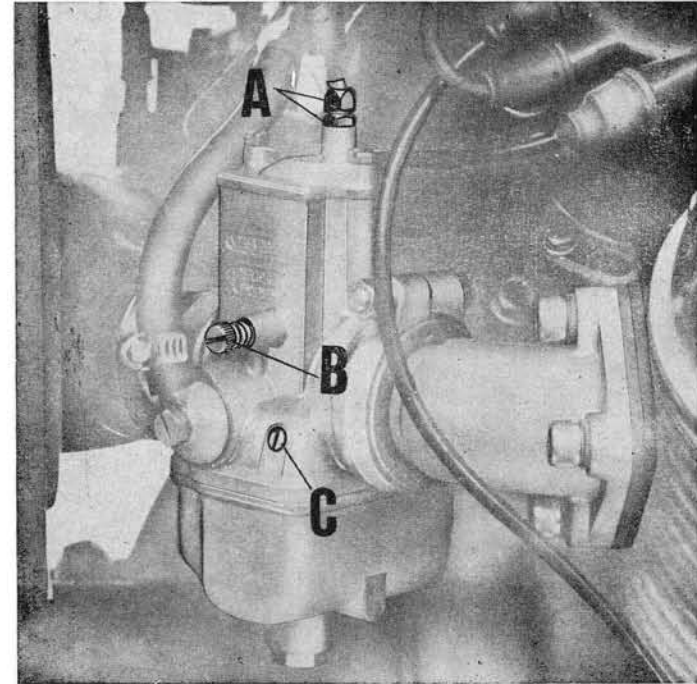

Fig. 13
- 2) Check synchronization of both gas valves with the filter box and the inlet sleeve disconnected. Turn the throttle grip keeping at the same time your fingers on the carburetor slides to feel if both valves open by the same amount and simultaneously. Should one valve open before the other, this can be corrected by setting screw A fig. 13 in the position where by turning the throttle both valves open simultaneously.
- 3) Adjust the idling speed by acting on screw C in fig. 13. Screwing this in reduces the fuel flow and viceversa increases it. To adjust, tighten and then turn screw out $1\frac{1}{2}$ turns for the L/H carburetor and $1\frac{3}{4}$ to 2 turns for the R/H carburetor.
With the engine running at about 1000-1200 r.p.m., disconnect one of the leads and turn screw C (fig. 13) of the opposite carburetor in or out to the position which will give the best idling speed i.e. when the revs are slightly increasing.
dies out sooner or later, it is necessary to adjust idling screw B fig. 13 setting it at the point where the engine will stop after it has fired 4 or 5 times.
The same operation should be repeated on the right hand cylinder, with the left hand plug lead disconnected. If the R/H cylinder is normal, the engine should stop after firing 4-5 times. If not, screw B fig. 13 should be adjusted to the position where it does so. Finally, the left cylinder plug lead should be re-connected.